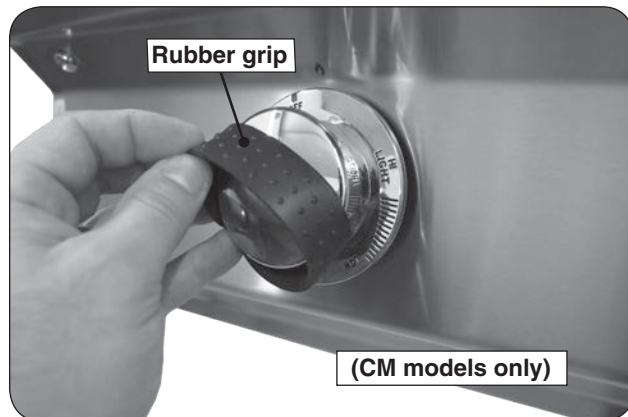

Fig. 23-1 Remove rubber grips (if applicable)
2. For CM models, remove the rubber grip from the control knob (see Fig. 23-1).